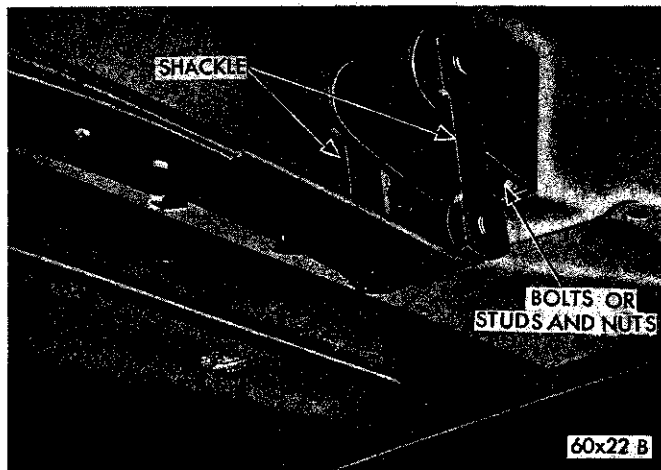

Fig. 2—Rear Spring Rear Shackle
(2) Lower the jack until it supports only the weight of the axle housing and remove the rear spring rear shackle (Fig. 2).
(3) Loosen the rear spring pivot bolt nut. The nut should be backed off until it is retained on the pivot bolt by two or three threads.
(4) Using a pry bar between the pivot bolt nut and the body frame, force the pivot bolt outward until the nut contacts the spring mounting bracket.
(5) Remove the pivot bolt nut and using a suitable tool, force the pivot bolt out of the spring.
(6) Remove the spring "U" bolts and the spring.